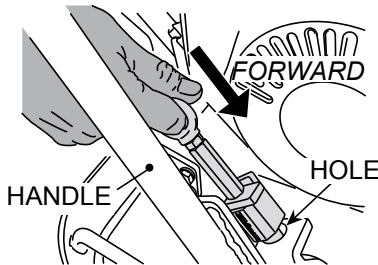

Figure 8. Locking Stopper Pin
3. Release the eye nut and move handle forward and reverse until the stopper pin is aligned in place (Figure 8). Pull the handle back more, if stopper pin is difficult to lock.